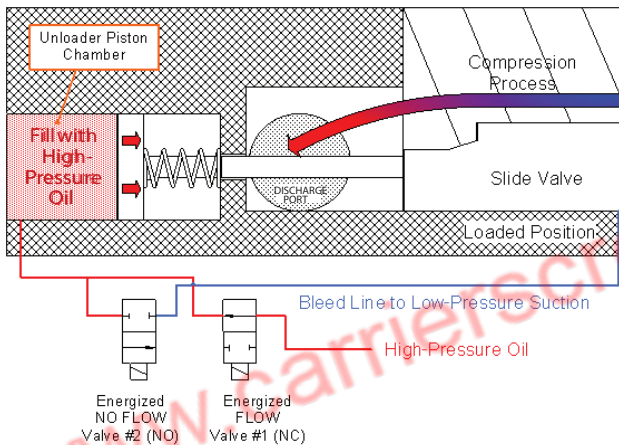

Fig. 18 — Fully Loaded Operation
- To fully load the compressor, both solenoid #1 and #2 are energized (see Fig. 18). This allows high-pressure oil to enter the unloader piston chamber, moving the slide valve and providing more engagement under the screw rotors. Both solenoids should remain energized to maintain the full load position.